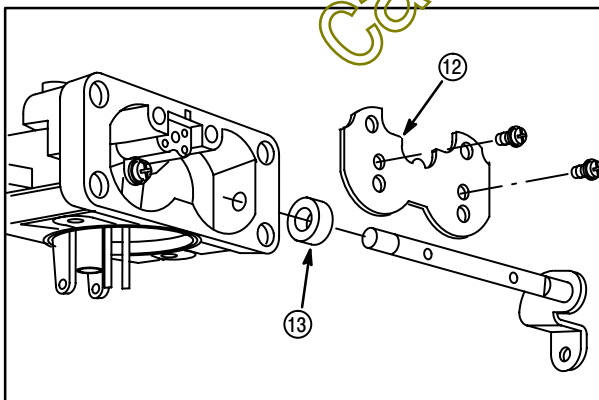

Fig. 120
8. Remove screws and choke plate (12), Fig. 120.
9. Remove choke shaft. Discard seal (13).